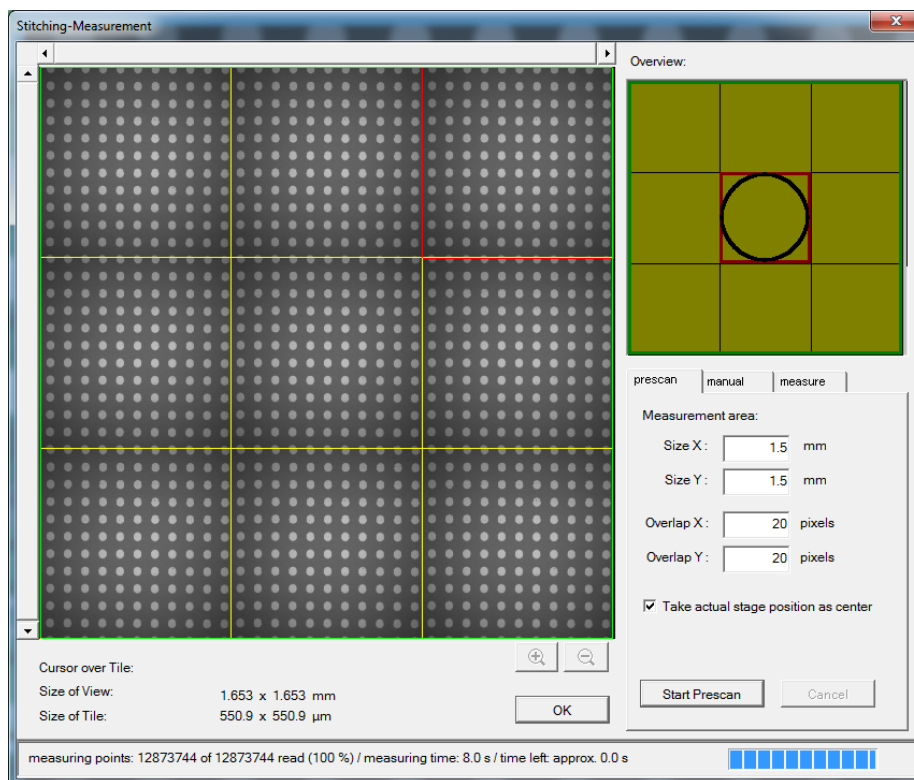

FIGURE 14: SMARTVIS3D “STITCHING-MEASUREMENT” DIALOG AFTER THE PRESCAN PROCEDURE
After the grid satisfies the requirements of your measurement task press on the “Start Prescan” button of the “prescan” tab in the option field (3). By calling the “Prescan” procedure the motorized positioning stage will automatically assume measurement positions corresponding to the grid tiles at each of which the camera will capture a single frame of specimen’s surface. These frames will be shown in the grid field (1) of the “Stitching-Measurement” dialog. Additionally the grid tiles of grid field (2) will be assigned a chartreuse background color. In Figure 14 an example of a 3x3 camera frames grid with captured camera frames and of a 3x3 progress status grid are shown.